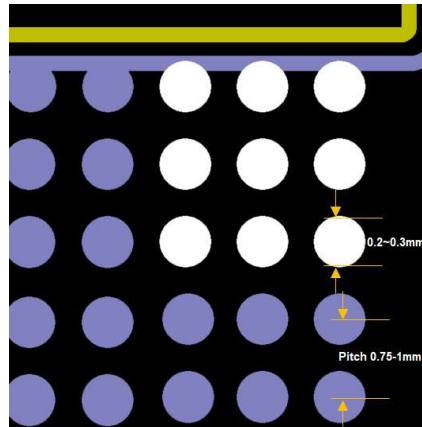

Figure 11-2 PCB Exposed Pad Land Pattern Via Grid
- Maximum thermal and electrical performance is achieved when an array of vias is incorporated in the land pattern at 0.6~1mm grid, as shown in Figure 11-2.